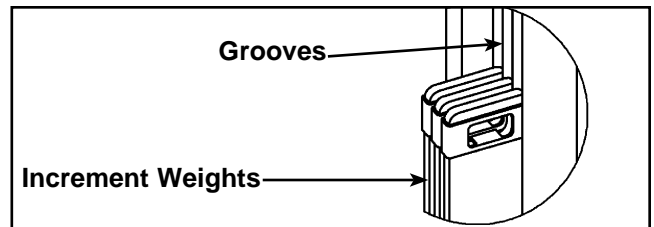

Figure 10
- J. Reinstall the six increment weights that were removed in step 6B. See Figure 10.